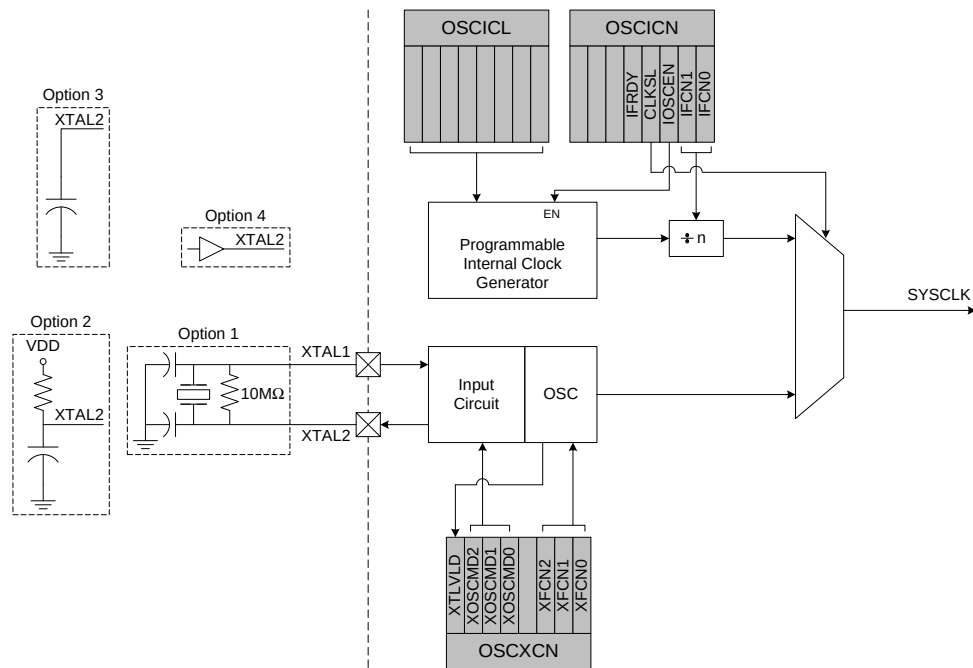

Figure 11.1. Oscillator Diagram
C8051F300/1/2/3/4/5 devices include a programmable internal oscillator and an external oscillator drive circuit. The internal oscillator can be enabled/disabled and calibrated using the OSCICN and OSCICL registers, as shown in Figure 11.1. The system clock can be sourced by the external oscillator circuit, the internal oscillator, or a scaled version of the internal oscillator. The internal oscillator's electrical specifications are given in Table 11.1 on page 99.
The external oscillator circuit may drive an external crystal, ceramic resonator, capacitor, or RC network. A CMOS clock may also provide a clock input. For a crystal or ceramic resonator configuration, the crystal/resonator must be wired across the XTAL1 and XTAL2 pins as shown in Option 1 of Figure 11.1. A 10 M $\Omega$  resistor also must be wired across the XTAL2 and XTAL1 pins for the crystal/resonator configuration. In RC, capacitor, or CMOS clock configuration, the clock source should be wired to the XTAL2 pin as shown in Option 2, 3, or 4 of Figure 11.1. The type of external oscillator must be selected in the OSCXCN register, and the frequency control bits (XFCN) must be selected appropriately (see SFR Definition 11.3).
**CRYSTAL MODE** (Circuit from Figure 11.1, Option 1; XOSCND = 11x)
**RC MODE** (Circuit from Figure 11.1, Option 2; XOSCND = 10x)
**C MODE** (Circuit from Figure 11.1, Option 3; XOSCND = 10x)
If a crystal or ceramic resonator is used as an external oscillator source for the MCU, the circuit should be configured as shown in Figure 11.1, Option 1. The External Oscillator Frequency Control value (XFCN) should be chosen from the Crystal column of the table in SFR Definition 11.3 (OSCXCN register). For example, an 11.0592 MHz crystal requires an XFCN setting of 111b.